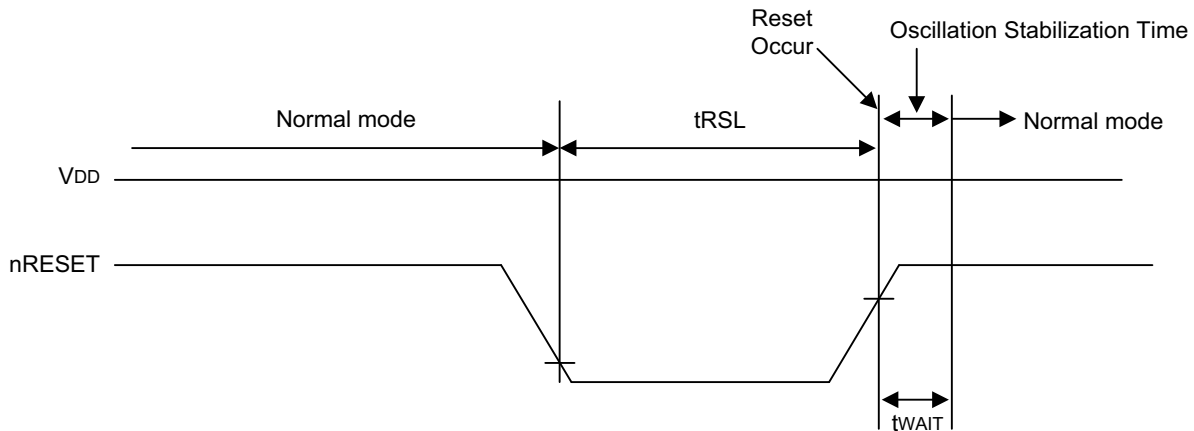

Figure 96. Input Timing for Reset (nRESET Pin)
- Input Timing for Reset – see Figure 96 on page 305
► **Note:** In Figure 96, T_{WAIT} is the same as $4096 \times 16 \times 1/f_{OSC}$.